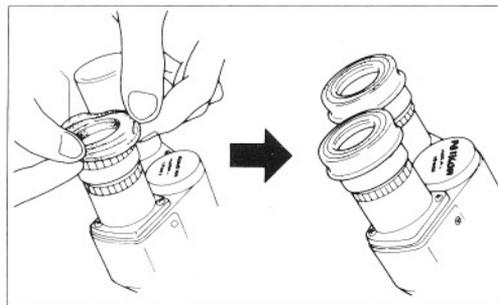

Fig. 22
- ※ The CF eyepieces being of high eyepoint type, when the observer uses his eyeglasses, it will not be necessary to remove but only to bend the rubber eyeguards. (Fig. 22)